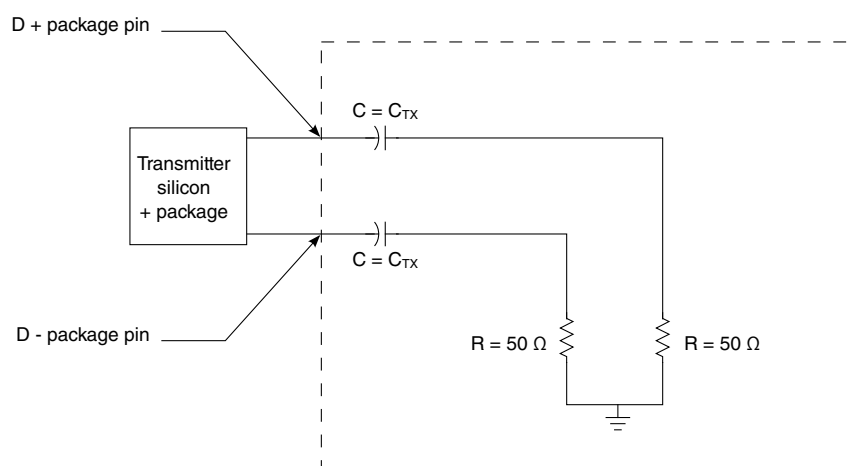

Figure 82. Test and measurement load
- Specified at the measurement point into a timing and voltage test load as shown in Figure 82 and measured over any 250 consecutive transmitter UIs.
Notes: 1. Each UI is 200 ps $\pm$ 300 ppm. UI does not account for spread-spectrum clock dictated variations. 2. Specified at the measurement point into a timing and voltage test load as shown in Figure 82 and measured over any 250 consecutive transmitter UIs. 3. The maximum transmitter jitter can be derived as: $T_{TX-MAX-JITTER} = 1 - T_{TX-EYE} = 0.25$ UI. 4. Reference input clock RMS jitter (< 1.5 MHz) at pin < 1ps. 5. The chip's SerDes transmitter does not have C_{TX} built-in. An external AC coupling capacitor of 100 nF is required. 6. All transmitters must be AC coupled. The AC coupling is required either within the media or within the transmitting component itself.
- Specified at the measurement point and measured over any 250 consecutive UIs. The test load in Figure 82 must be used as the receiver device when taking measurements. If the clocks to the receiver and transmitter are not derived from the same reference clock, the transmitter UI recovered from 3500 consecutive UI must be used as a reference for the eye diagram.